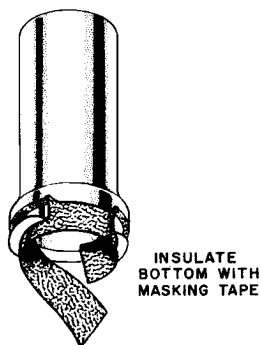

Figure 11. Special Tube Shield for IF Alignment and IF Response Curve Check.
4. For injecting 21MC or 41MC IF Signals, use an insulated tube shield over V102 Oscillator-Mixer tube. Insulate bottom of tube shield with masking tape, see figure 11.